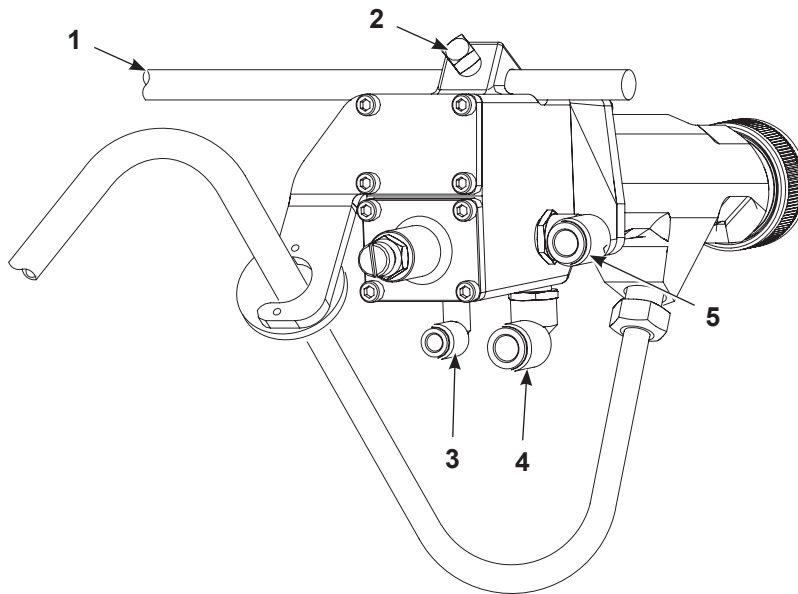

Figure 3-2 Typical Spray Gun Installation
See Figure 3-2. Secure the spray gun to a 1/2 in. mounting bar (1) with the square head set screw (2).
See Figure 3-2. Connect atomizing, horn, and trigger air tubing to the spray gun as follows: